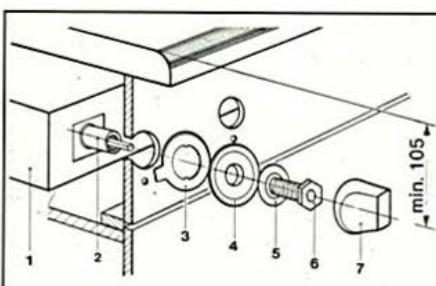

Fig. 5
4. Hold the control panel (with the case cover pointing downwards) from the inside against the panel of the lower cupboard and screw the fastening screws with washer into the nut on the control panel from the outside (see Fig. 5). After aligning the control panel, tighten the fastening screws until the control panel is properly fixed.